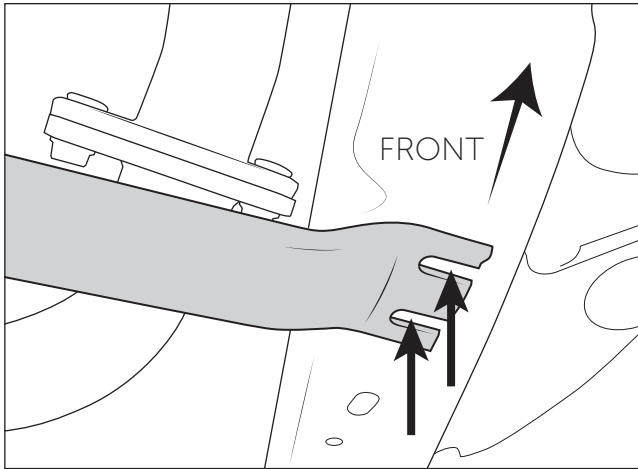
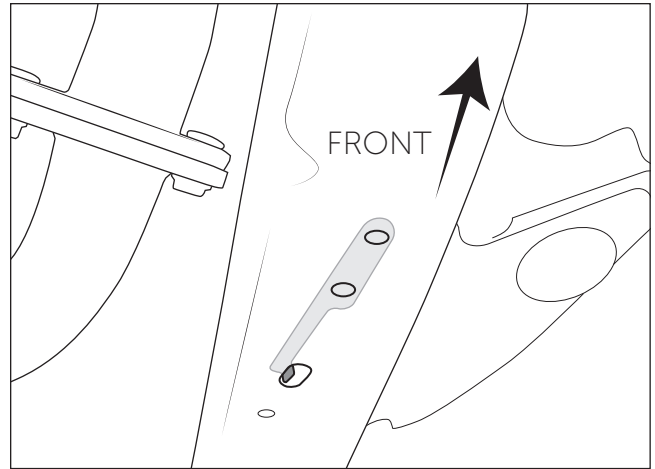

Figure 4
Figure 5
- A. With skid loosely hung on the passenger side, use the skid to mark the driver-side frame holes (fig. 4).
- B. Remove skid and drill two (2) 11mm holes in the frame.
5. Insert flag nut into driver-side frame (fig. 5).